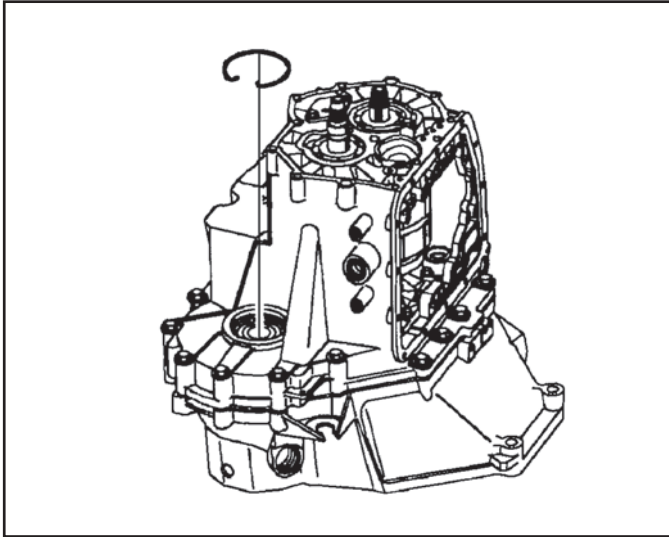

Figure 196
16. To check the differential end play, remove the selective snap ring from the differential bearing bore as shown in Figure 196.